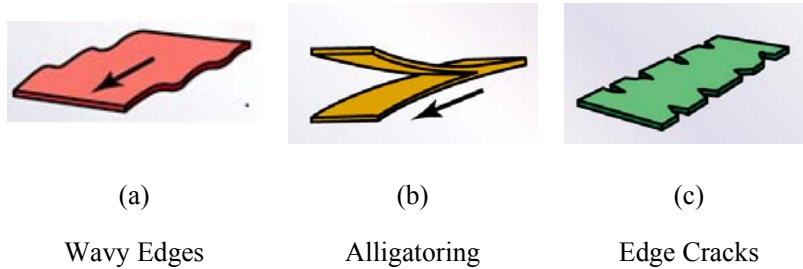

Figure Q4B: Defects in Rolling process
- D. Explain the main reason of occurring the defects shown in Figure Q4B that occurred during the rolling process and suggest a solution.